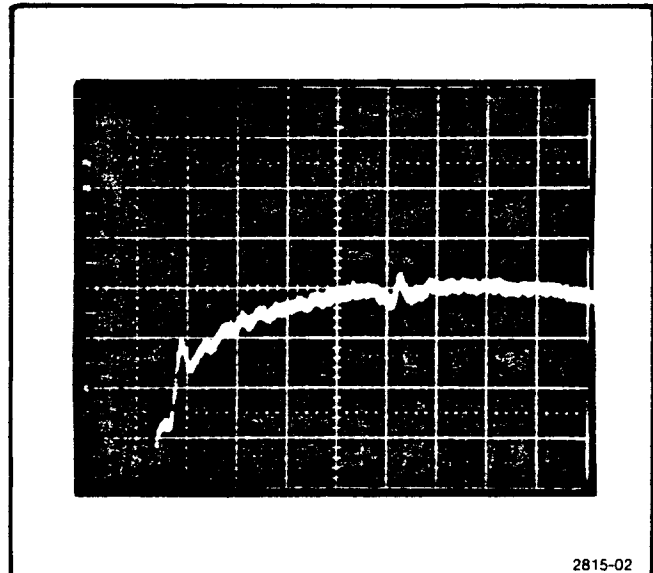

Fig. 5-1. Typical response curve of sampling system with the TD Pulser. Reference curve for the Low Edge Aberration Check. (steps 13l and 13m).
A display similar to Fig. 5-1 should be obtained. Each major vertical division now represents 2% of the original 5-division signal. This display is the total sampling system response to a signal from the TD Pulser and is used as a reference for comparison purposes.
m. Use the marking pencil (for glazed surfaces) to carefully reproduce the displayed signal (average values) on the crt graticule. Ignore aberrations during first 200 ps. Not all sampling systems will display exactly as illustrated in Fig. 5-1. Once this reference graph has been drawn on the crt, do not erase it until all aberration checks and risetime measurements have been completed.